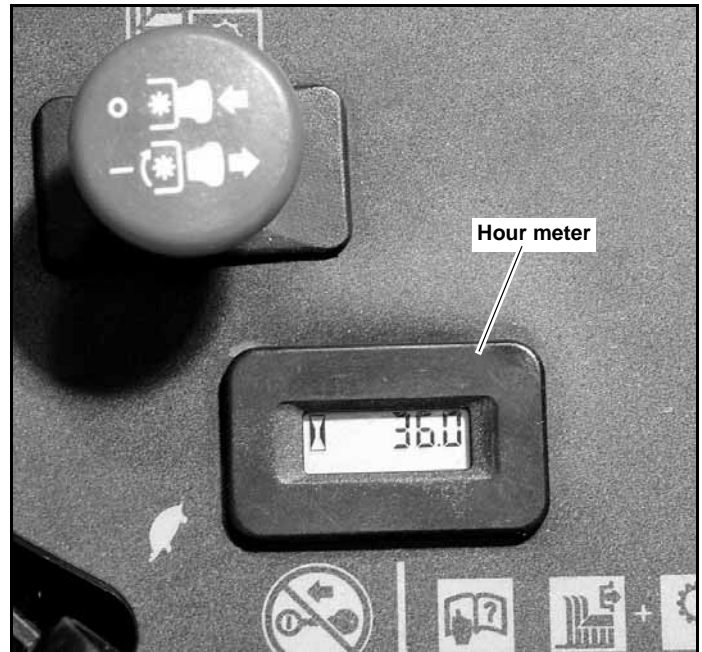

Figure 3-2
- F. **Electronic hour meter (Figure 3-1 & Figure 3-2)** — registers 1/10 hour increments up to 9,999.9 total hours. Connected to the ignition switch, the meter records the